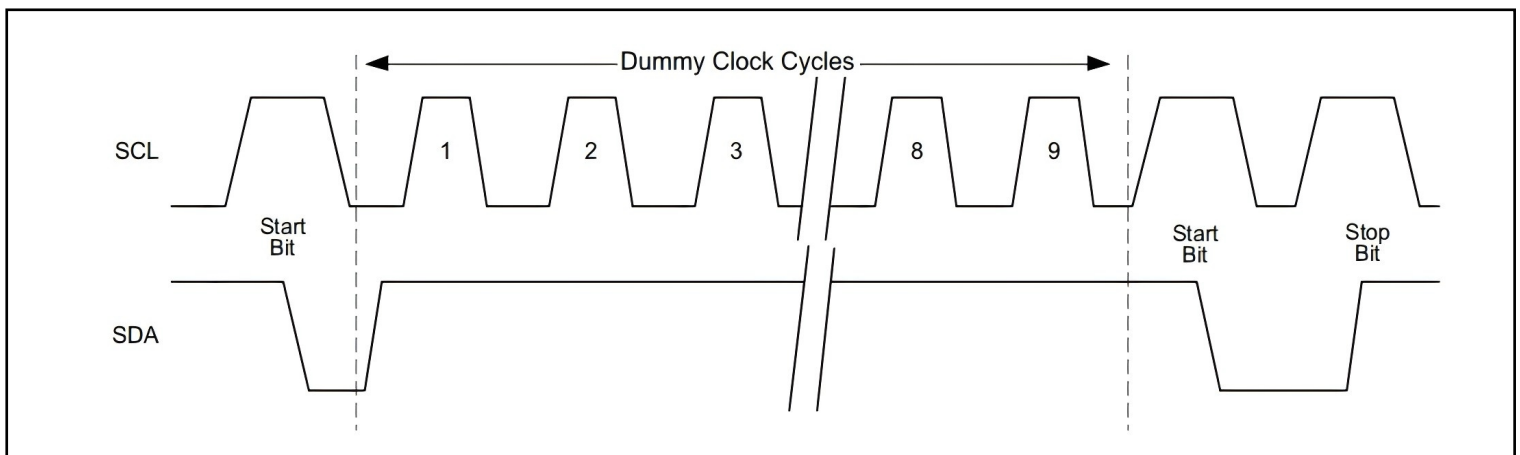

Figure 1. Software reset
3. Create another start bit followed by stop bit condition as shown in Figure 1.